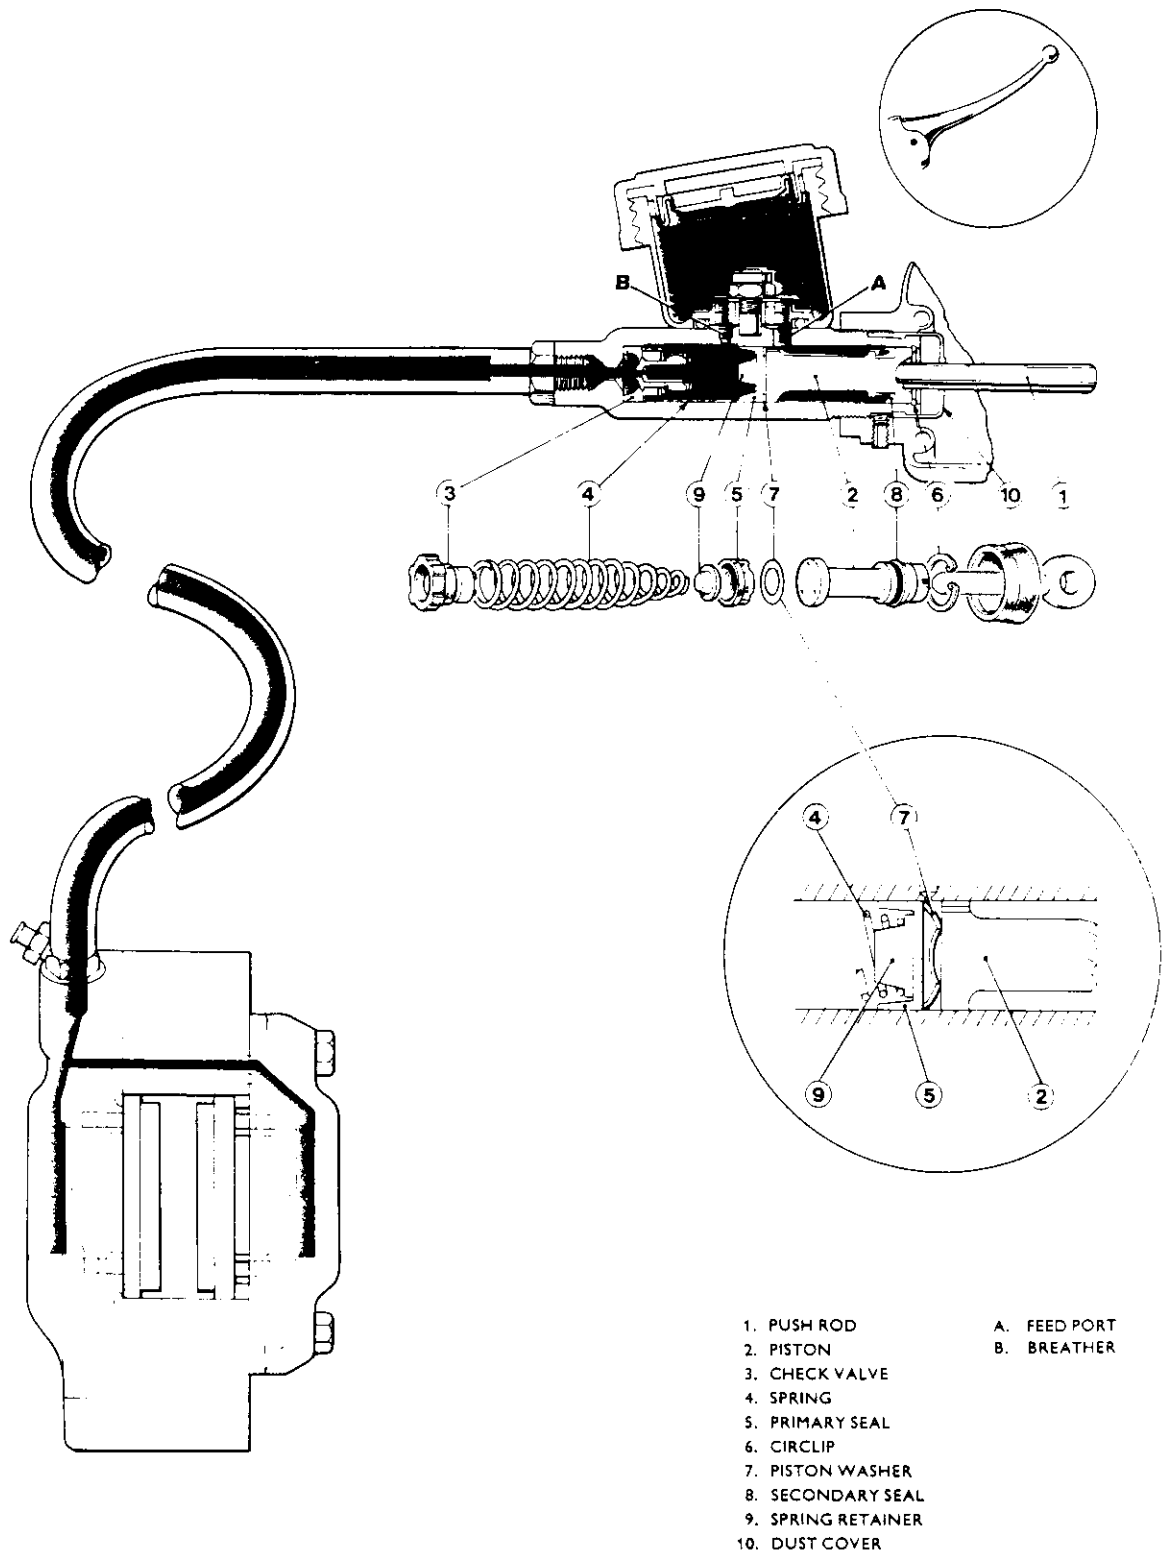
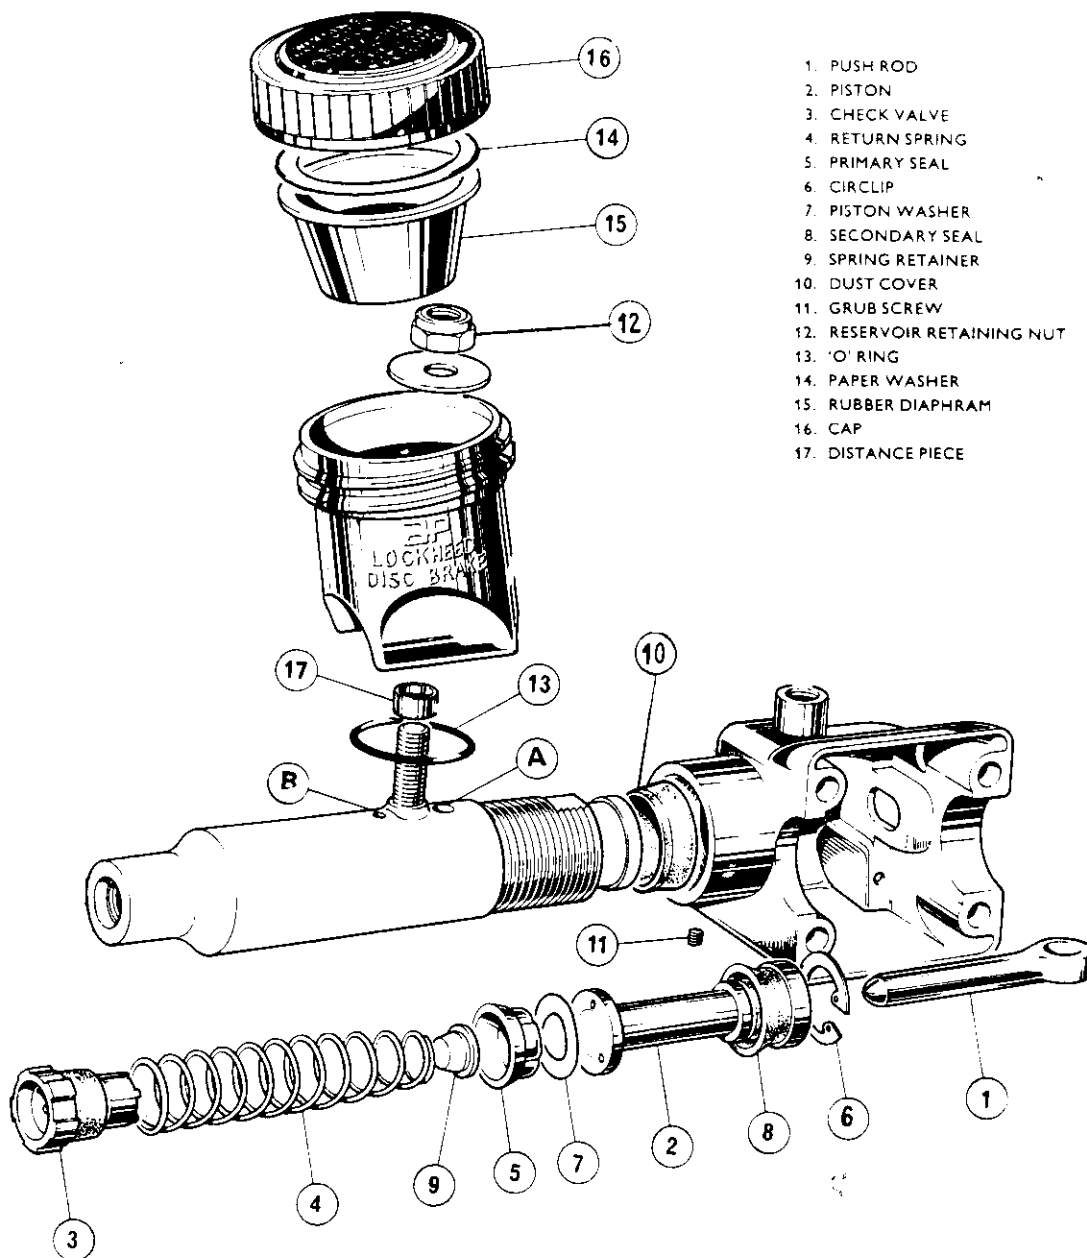

Fig. F5. Hydraulic flow diagram
Fig. F6. Exploded view of master cylinder
The master cylinder consists of a fluid reservoir bolted to a cylinder body, which contains a piston, seals, and other parts, as shown in Fig. F6. With reference to this exploded view, and also the hydraulic flow diagram (Fig. F5), the operation of the brake assembly is as follows.
Removal and dismantling procedure is as follows. First, drain the system of fluid (See Section F6). Remove the rubber hose from the end of the master cylinder. Remove the brake lever and push rod by unscrewing the pivot bolt. Unscrew the four retaining screws that hold the right switch console, and remove the master cylinder from the handlebars. Detach the reservoir bowl from the cylinder, by removing the attachment nut from the inside (See Item 12 Fig. F6). Note assembly of washer, spacer, and O ring. Remove the grub screw that locks the cylinder in position in the switch housing (See Fig. F6), and then unscrew the cylinder. Detach the rubber boot from the end of the cylinder.
Fit the return spring. Empty the cylinder of fluid, and proceed to reassemble the cylinder barrel into the switch housing. At this stage the final position of the cylinder barrel in the housing must be determined. It will be noted, from Fig. F5, that the lip of the primary seal (5) must be $\frac{1}{16}$ in. behind the breather port, and the reservoir set at an angle of 10° to the vertical. The milled flats on the threaded end of the cylinder are machined relative to the 10° position, and the appropriate one must be used when assembly takes place.
- (d) Place one finger over the main feed port (marked 'A' in Fig. F6), and by blowing through the outlet end of the cylinder, it will be observed that no air will escape from the breather port ('B' Fig. F6).
- (f) Unscrew the barrel one complete turn, and set the angle to 10°. The milled flat on the threaded end of the barrel must be located when the grub screw (Fig. F6) is being retightened, and will set the angle automatically.